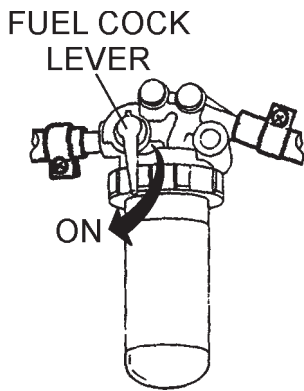

Figure 14. Fuel Cock Lever (ON)
1. Open the cabinet door and turn the fuel cock lever (Figure 14) to the "ON" position.